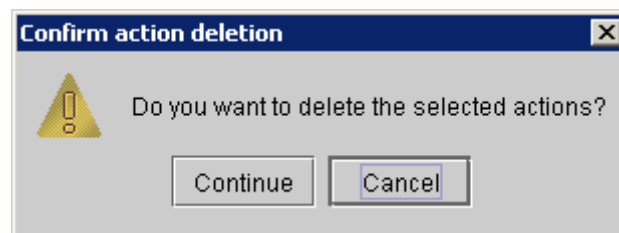

Figure 195 : Plugin deletion confirmation
- ◆ Click on the **Remove** button; the following action deletion confirmation message then appears (Figure 195):